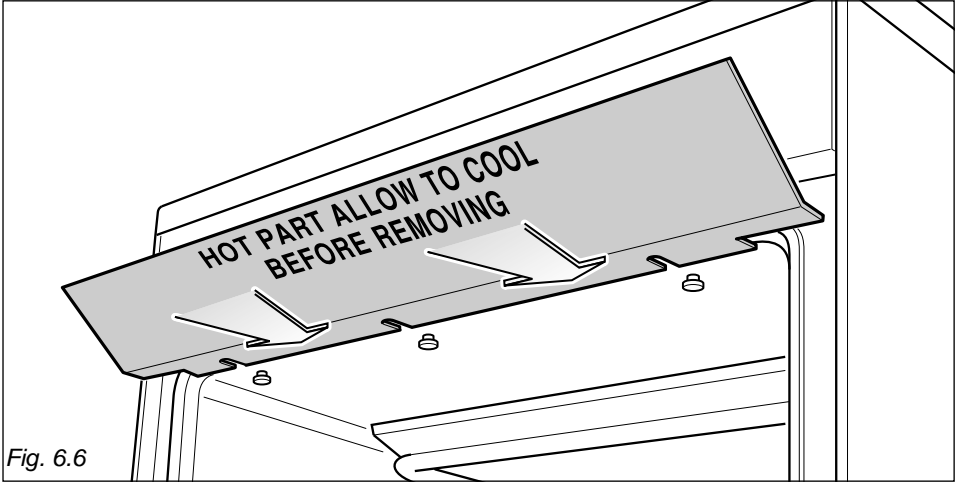

Fig. 6.6
Do not grill with oven door closed. Always fit the heat shield supplied with the cooker under the front panel before commencing operations (Fig. 6.6).
- It is important that the heat shield is fitted the correct way up, as shown in the figure 6.6.
**Very important: the rotisserie must always be used with the oven door ajar and with shield "A" mounted (Fig. 6.6).**